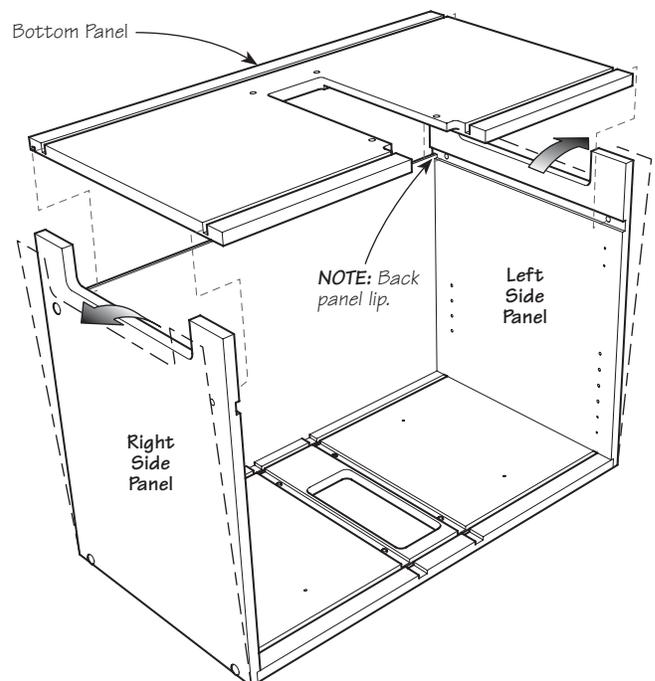

Figure 10: Installing the bottom panel.
5. Put the bottom panel in place as shown (Figure 10). Engage one end in the left panel dado. Align the back panel with the dado in the bottom panel. Splay the side panels out slightly so that the opposite end of the bottom panel can fit into the right side panel dado.